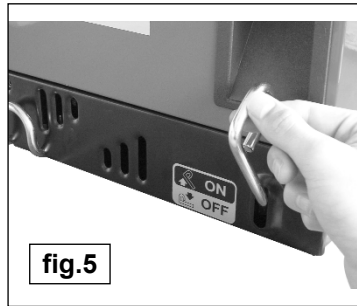

fig.5
- 4.3 Turn the pump on by lifting up the on/off switch lever (fig.5) then depress the trigger and keep it depressed until fuel emerges in a steady flow that is free of air.
- 4.10 Turn the pump on by lifting the on/off switch up (See fig.5).